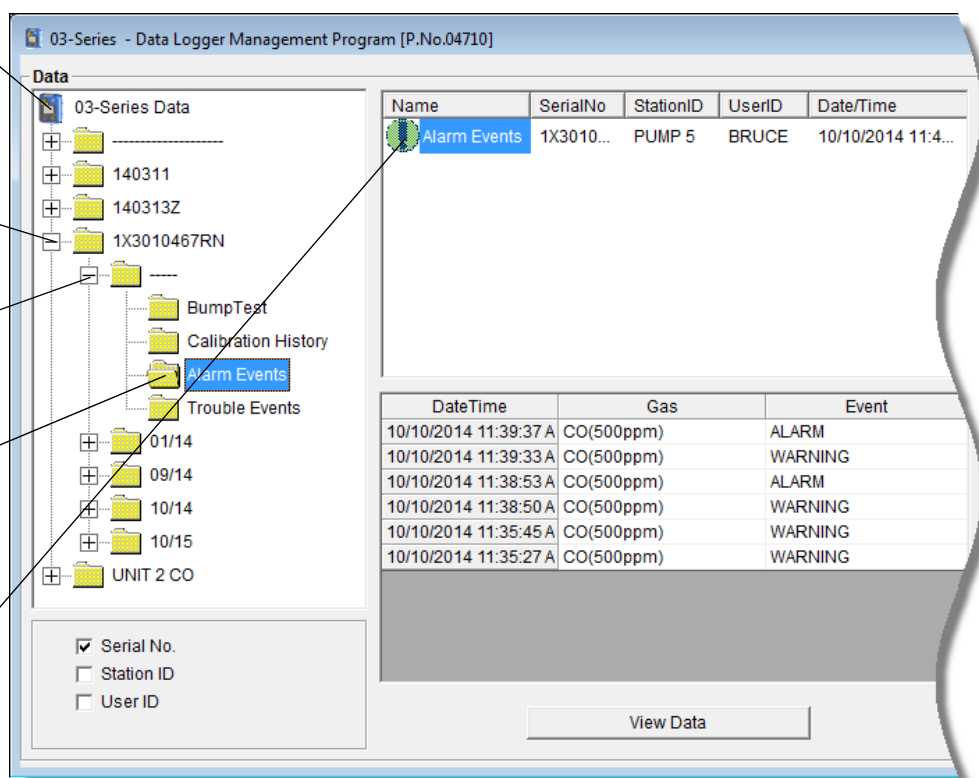

Figure 27: Data Window - Selecting Event Data Files
5. Click the Alarm Events or Trouble Events folder. One or more alarm or trouble event files will appear in the top right frame. An Alarm Events Folder has been opened in the example in Figure 27. If multiple station IDs or user IDs are used for an instrument, then more than one event file will appear.
8. If you click the **Summary** button, the Data Window will split into two frames, one above the other, with the event list in the lower frame and the summary information shown in the upper frame. The summary information is the same as the information shown in the upper right frame in Figure 27. To return to the one-frame format, click **Summary** again.